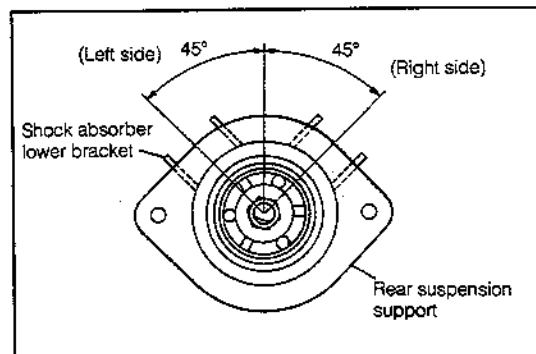

Fig. 6-53
- Align the rear suspension support on the shock absorber lower bracket, as shown in Fig. 6-53.
- (6) Fit the suspension support. Tighten it temporarily, using a new nut.